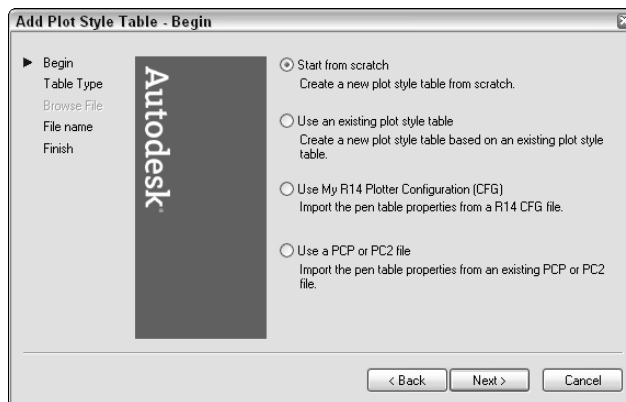

Figure 17-15: In the Begin screen of the Add Plot Style Table Wizard, choose the source that you want to use for the new plot-style table.
2. On the Begin screen, shown in Figure 17-15, choose the source that you want to use for the plot-style table. You can start from scratch or use an existing plot-style table. Choose Use My R14 Plotter Configuration (CFG) to use the pen assignments from the `acadr14.cfg` file. If you have a PCP (Release 12/13) or PC2 (Release 14) configuration file, you can use it to import the settings from that file into the plot-style table. Then click Next.